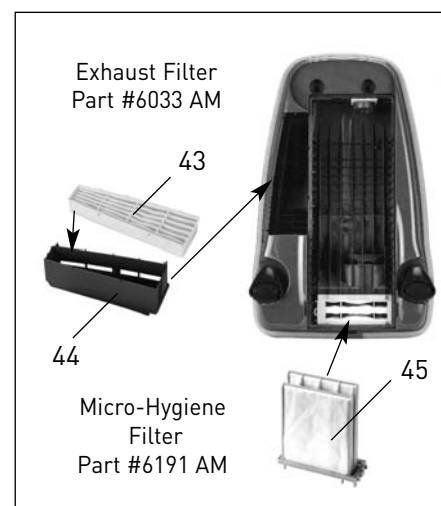

Figure 14
3. Micro-hygiene filter not properly inserted.	3. Remove the filter bag cover (21) and make sure the micro-hygiene filter housing is seated firmly in place (see pg. 9, figure 14).